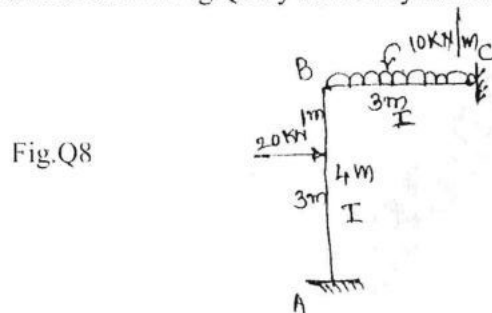

Fig.Q8
- 8 Analyze frame shown in Fig.Q8 by flexibility matrix approach. Draw BMD.